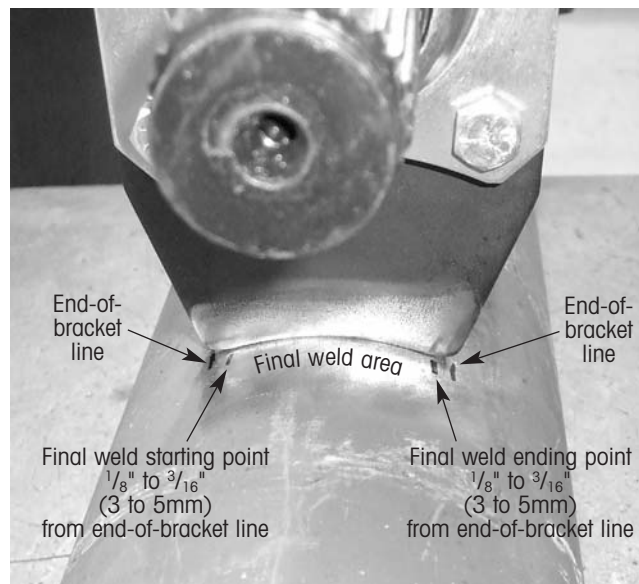

Figure 3. Weld placement layout
4. Using a felt-tip marker, place layout lines for the final weld on the axle tube (figure 3).
7. Final fillet weld size should be $\frac{1}{4}$ to $\frac{3}{8}$ inches (6 to 10mm) and should stop $\frac{1}{8}$ to $\frac{3}{16}$ inches (3 to 5mm) from both ends (figures 3 and 6). There should be two separate welds, one on